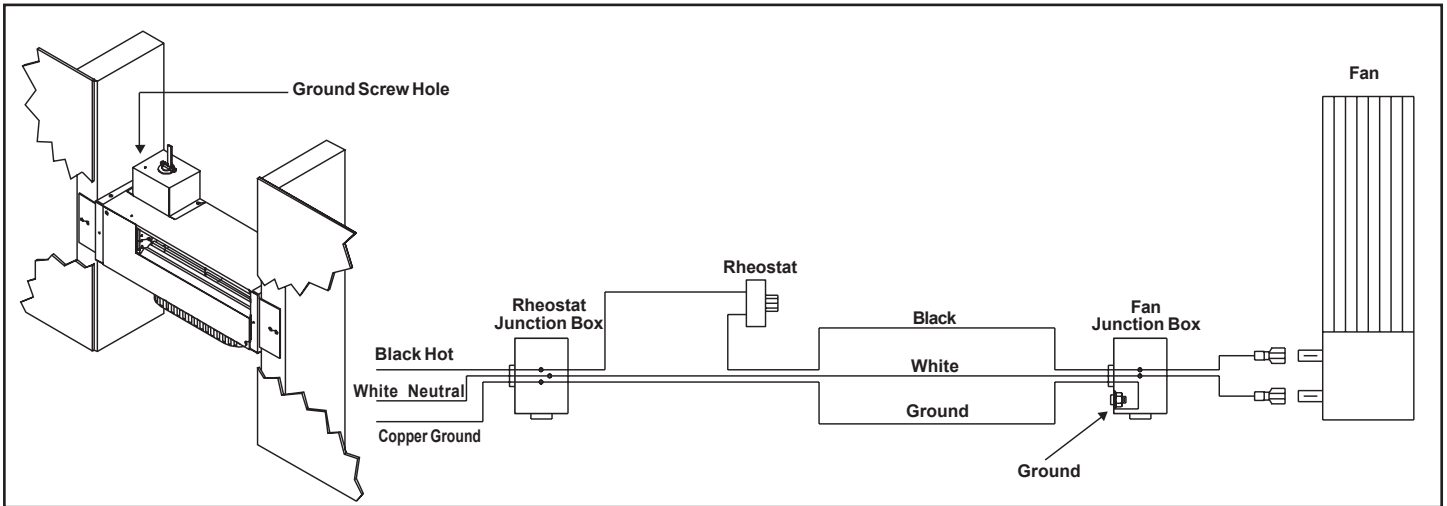

Figure 6 Rheostat Control
9. Wire 110 VAC service TO the wall Rheostat and FROM the wall Rheostat to the fan junction box. Use wire nuts to secure the 110 VAC service wires to the hot and neutral fan wires and screw the 110 VAC ground wire to the fan junction box. See Wiring Diagram - Figure 6.